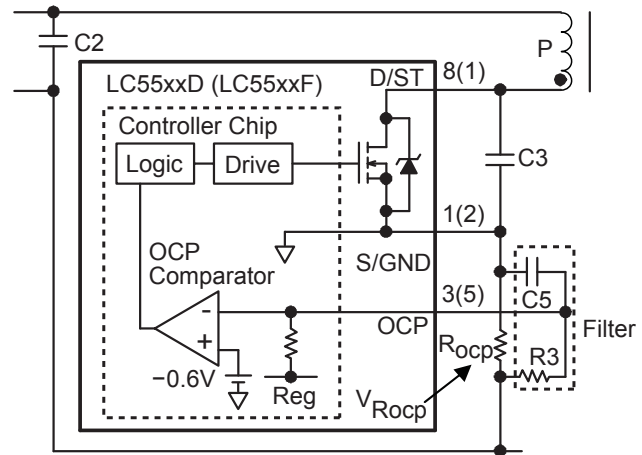

Figure 44. Minus detection OCP circuit
In order to minimize effects of variation in the internal resistor, R_3 (figure 44) is recommended to have a value from 100 to 330 Ω . and C_5 is recommended to have a value from 100 to 470 pF, with good temperature characteristics. Selecting larger capacitances slows OCP response, and results in an increase in the drain current peak at transient conditions, such as start-up.
- reduce the voltage resonant capacitor C_V (C_3 in figure 44) capacitance